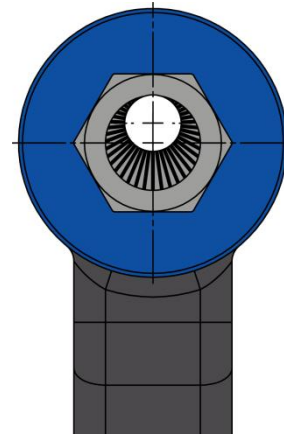

Figure 01 – RHS Control Arm Outer Side Front View
- With reference to the Figure 01, adjust the new crush tube with the spanner provided to give the desired camber result;